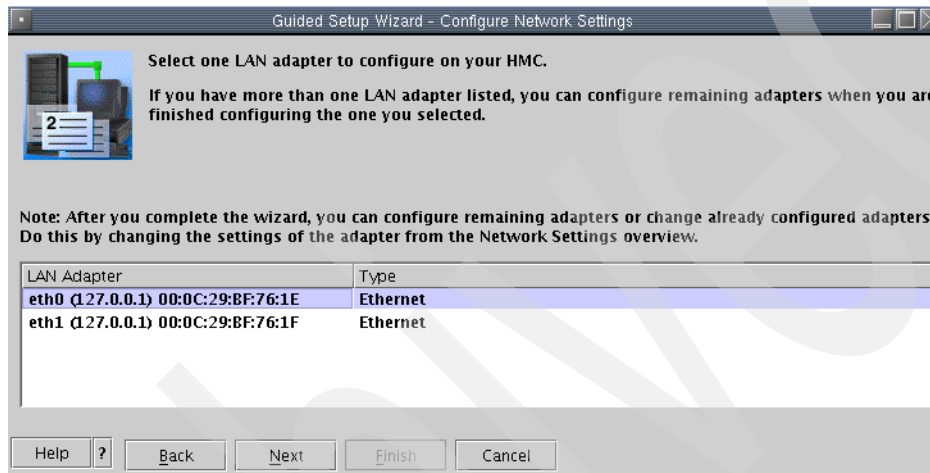

Figure 4-14 Guided Setup wizard - Configure Network Settings
14. The Guided Setup Wizard - Configure Network Setting panel is then displayed (Figure 4-14). In our example we see two LAN adapters available (eth0 and eth1), however, you may only see one adapter in your HMC system.